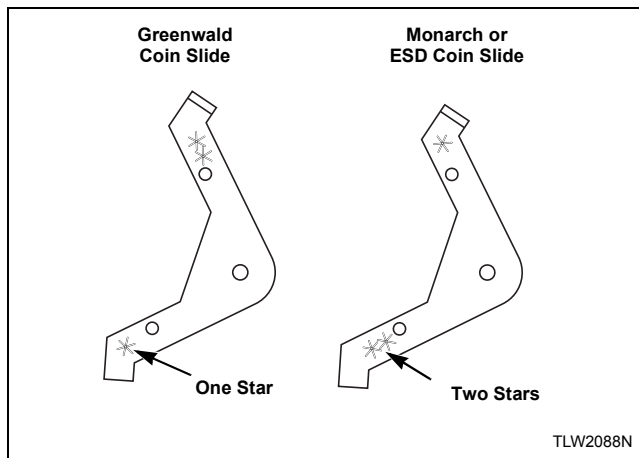

Figure 25
2. If installing a Greenwald coin slide, position extension lever (to be installed on extension bracket) with arm that has one star facing down. Refer to *Figure 25*.
3. If installing a Monarch or ESD coin slide, position lever with arm that has two stars facing down. Refer to *Figure 25*.